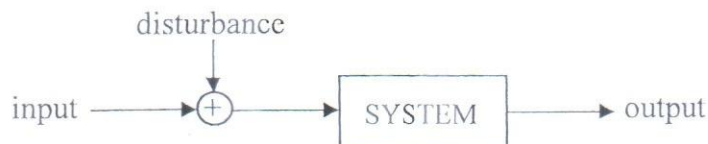

Figure 2: Block diagram of a system with an input disturbance
- b) A mechatronic system is often exposed to external disturbance forces such as illustrated in Figure 2 that can trigger inaccurate motions and reduction in system performance. **(10 Marks)**